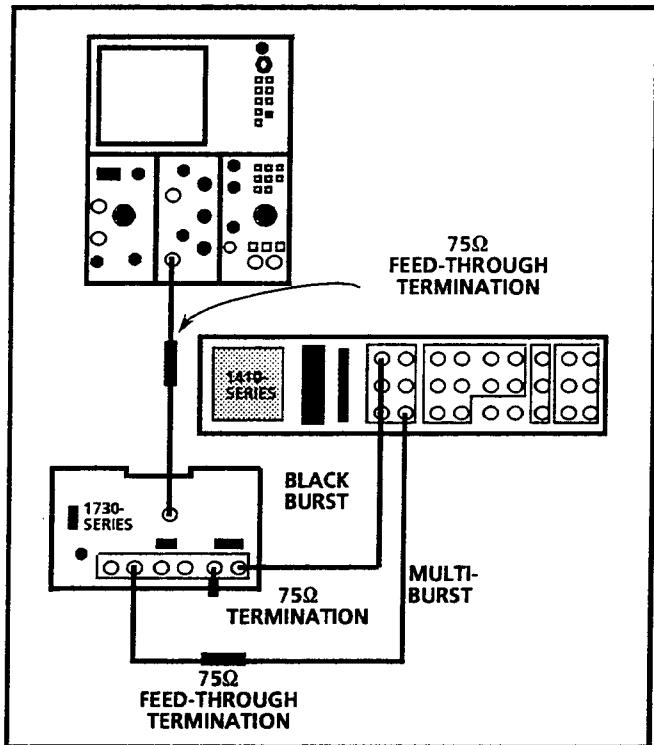

Fig. 5-18. Connecting multiburst signal to CH-A and CH-B for high-frequency compensation.
- a. Connect the multiburst signal through an in-line  $75\Omega$  termination to the CH-A INPUT. Connect the black burst signal to the EXT REF and terminate. Connect a  $75\Omega$  cable from the 1730-Series PIX MON OUT to the test oscilloscope vertical input (30 MHz vertical plug in). See Fig. 5-18.